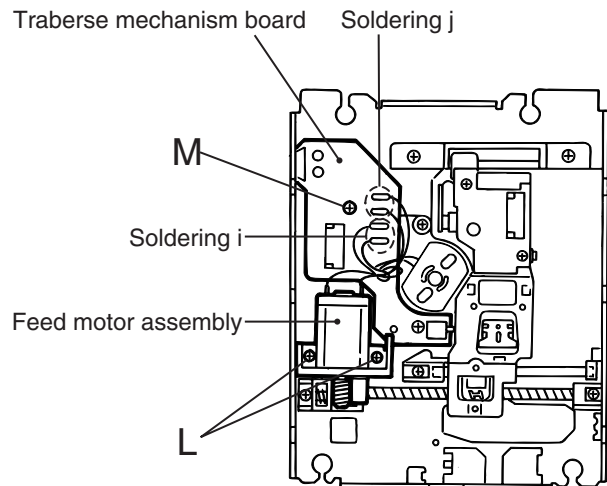

Fig.19-1
■ Removing the feed motor assembly (See Fig.19-1, 19-2)
■ Removing the traverse mechanism board (See Fig.19-1)